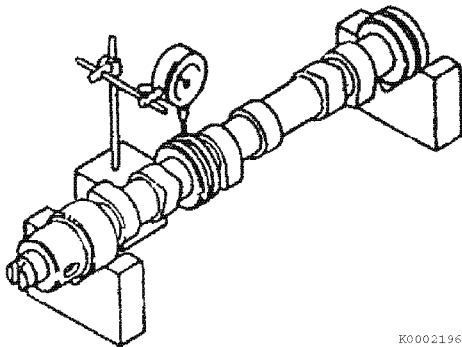

Figure 6-77
1. Use V-blocks and a dial indicator to check camshaft bend (Figure 6-77). Place the indicator on the center bearing journal.